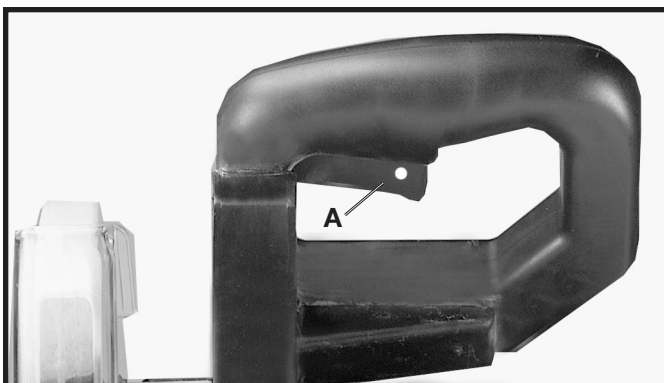

Fig. 12
To start the miter saw, depress switch trigger (A) Fig. 12. To stop the miter saw, release the switch trigger.
This saw is equipped with an automatic electric blade brake. As soon as the switch trigger (A) Fig. 12, is released, the electric brake is activated and stops the blade in seconds.
**⚠ WARNING** A TURNING SAW BLADE CAN BE DANGEROUS. AFTER COMPLETING CUT, RELEASE SWITCH TRIGGER (A) FIG. 12, TO ACTIVATE BLADE BRAKE. KEEP CUTTINGHEAD DOWN UNTIL BLADE HAS COME TO A COMPLETE STOP.